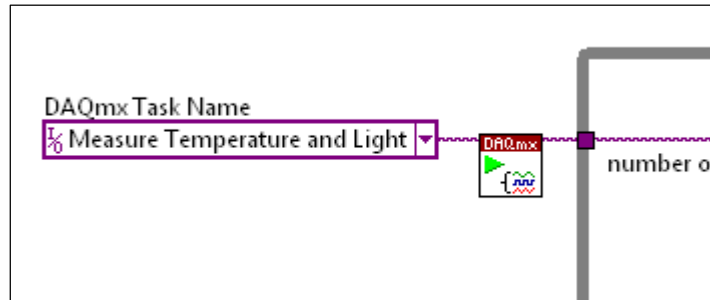

Figure 15. Replace the configuration VIs and input parameters with the DAQmx Task Name Constant.
- h. Wire the task from the output of the **DAQmx Task Name Constant** to the **Task / Channels In** input of the DAQmx Start Task.vi as shown in Figure 15.